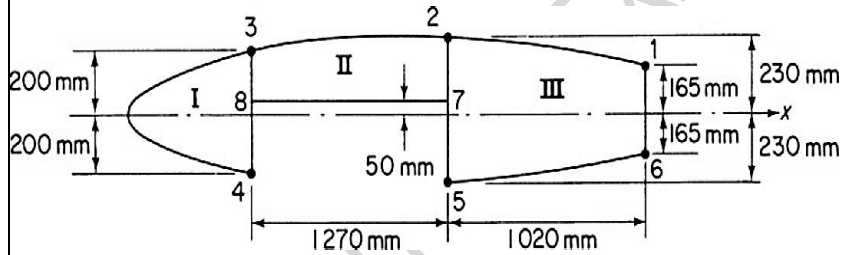

Figure 7b
- b) The wing section shown in Fig 7b. has been idealized such that the booms carry all the direct stresses. If the wing section is subjected to a bending moment of 300 kNm applied in a vertical plane, calculate the direct stresses in the booms.  $B_1=B_6=2580 \text{ mm}^2$ ,  $B_2=B_5=3880 \text{ mm}^2$ ,  $B_3=B_4=3230 \text{ mm}^2$